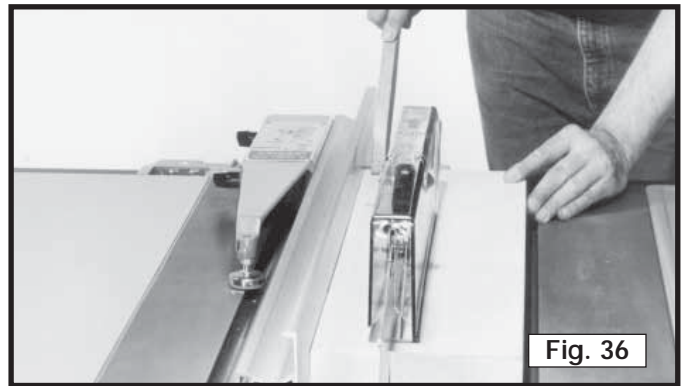

Fig. 36
3. If the ripped work is less than 6" wide, use a push stick to complete the feed (Fig. 36). You can make a push stick from scrap material as explained in the section "CONSTRUCTING A PUSH STICK."